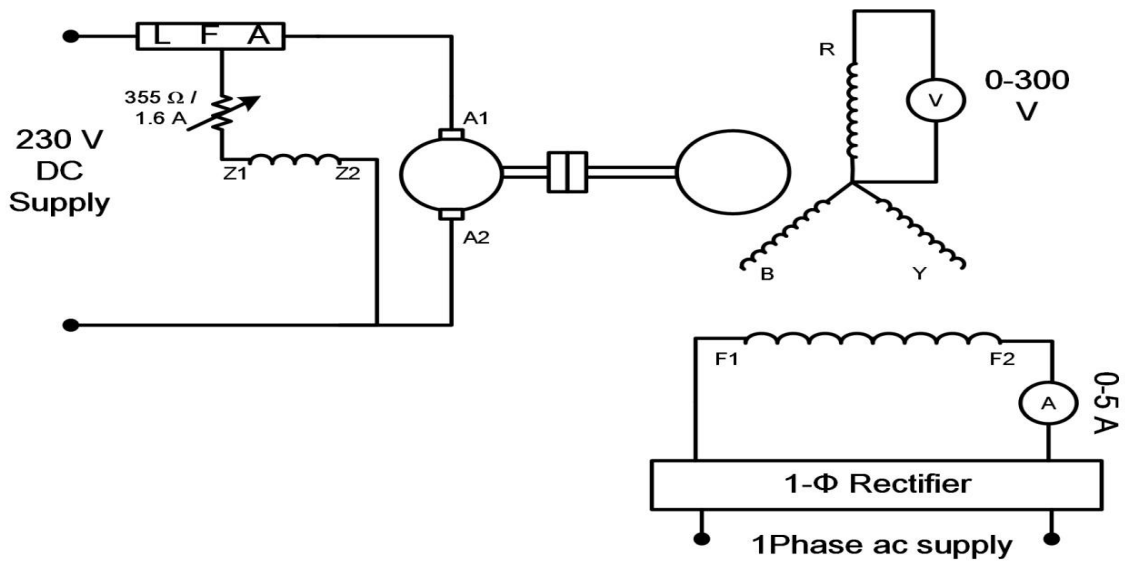

Fig.2: Connection Diagram for OCC
1. Connect the circuit as shown in fig.2